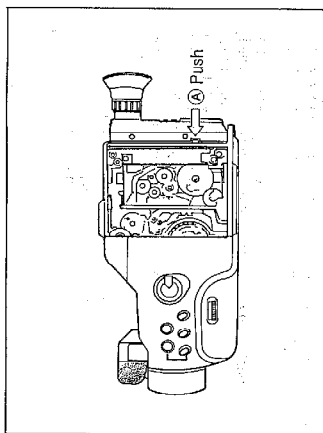

Fig.T11
- (1) In case that Tape is fully unloaded.
- * Remove the cassette cover and push the "A" position as shown in Fig.T11.